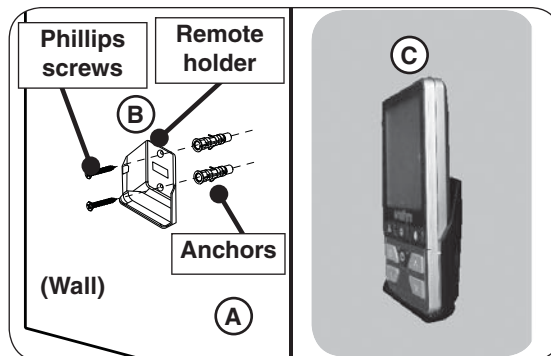

Fig. 25-4 Install wall mount remote holder
2. Drill pilot holes and insert the supplied anchors (see Fig 25-4, A).
3. Place the remote holder and fasten to the wall using the provided Phillips screws (see Fig 25-4, B).
4. Insert the remote transmitter (see Fig 25-4, C). Store in holder whenever not in use.